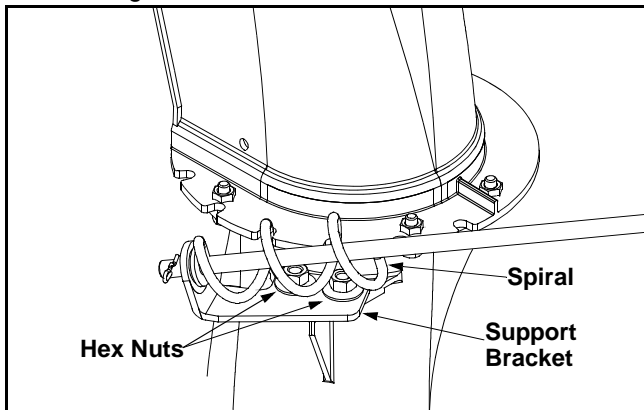

Figure 10
- Loosen, but do NOT remove the two hex nuts which secure the chute directional control support bracket to the snow thrower housing. See Figure 10.